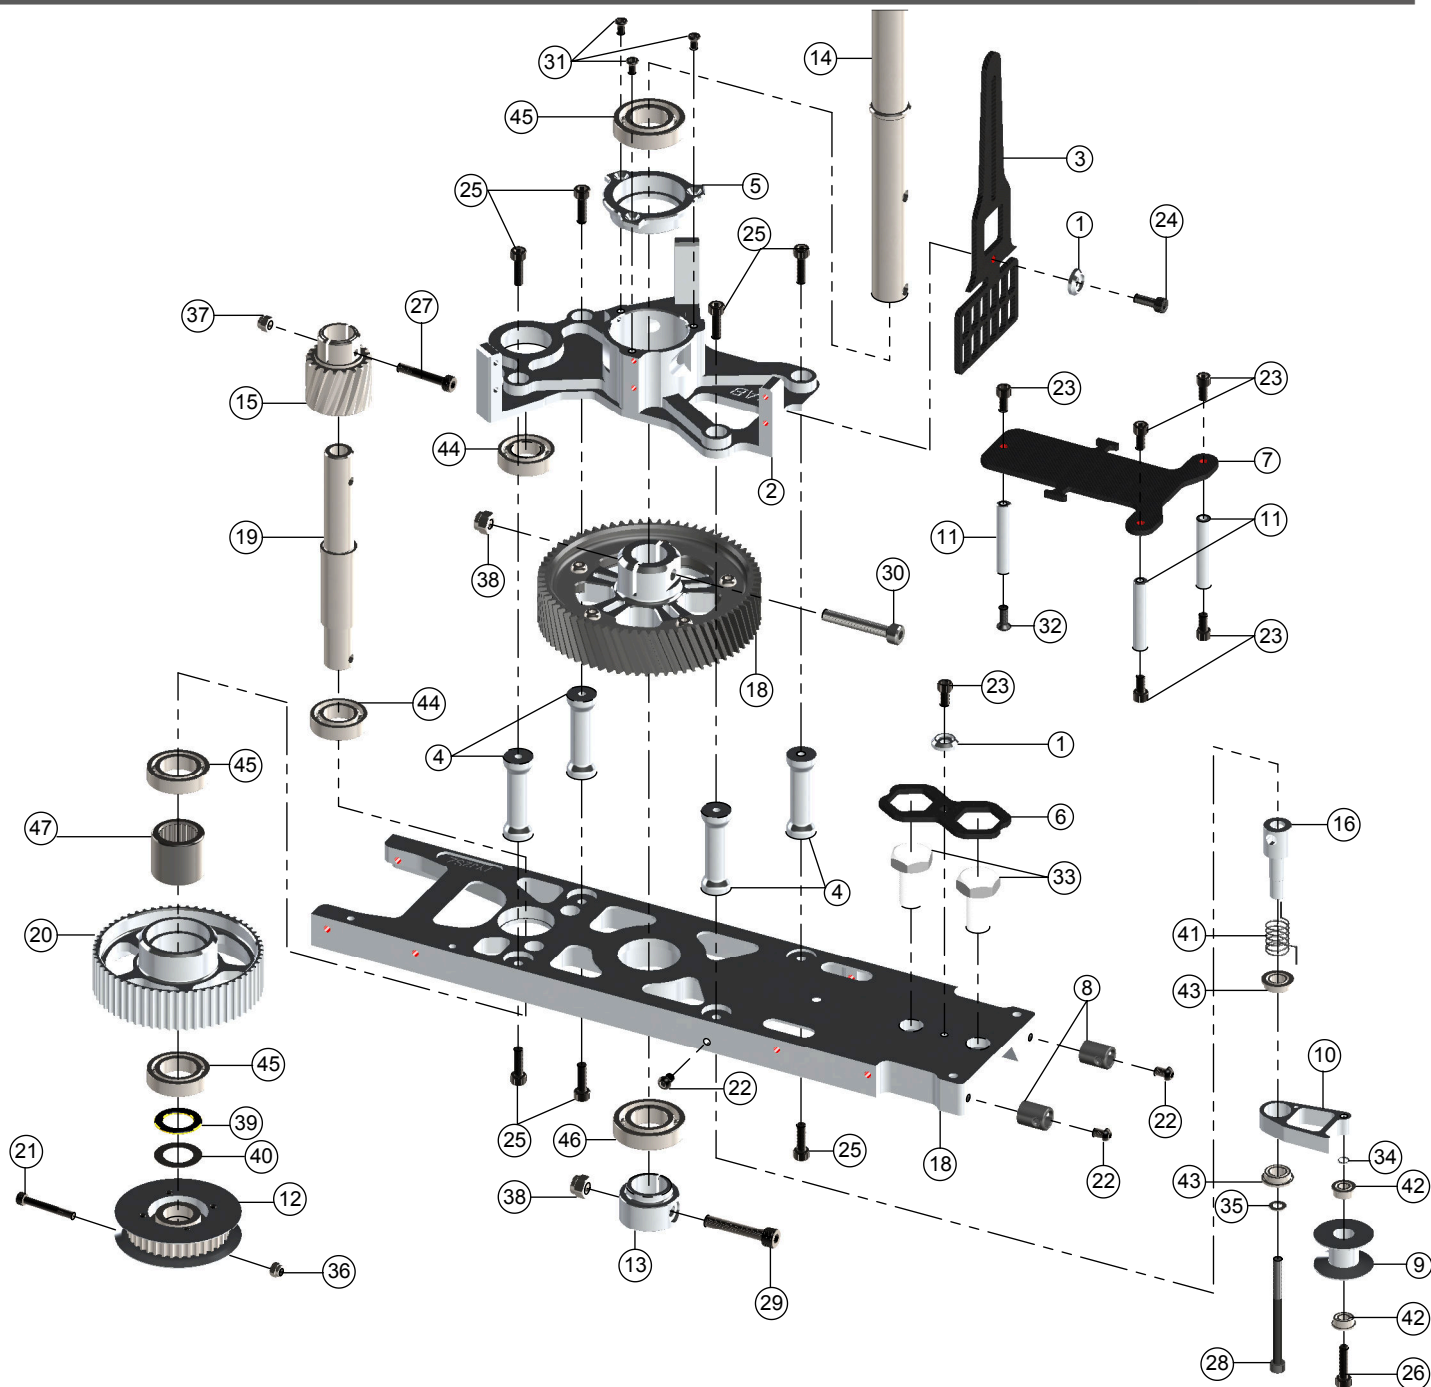

Fig. 3
- * On the Goblin, in order to correct the tracking, adjust the main link rod as shown in figure 3. This is provided with a right/left thread system that allows continuous fine adjustments of the length of the control rod; for this adjustment it is not necessary to detach the ball link.
Check the screws that are highlighted in the following images frequently, make sure they remain tight (**fig.2** and **fig.3**).